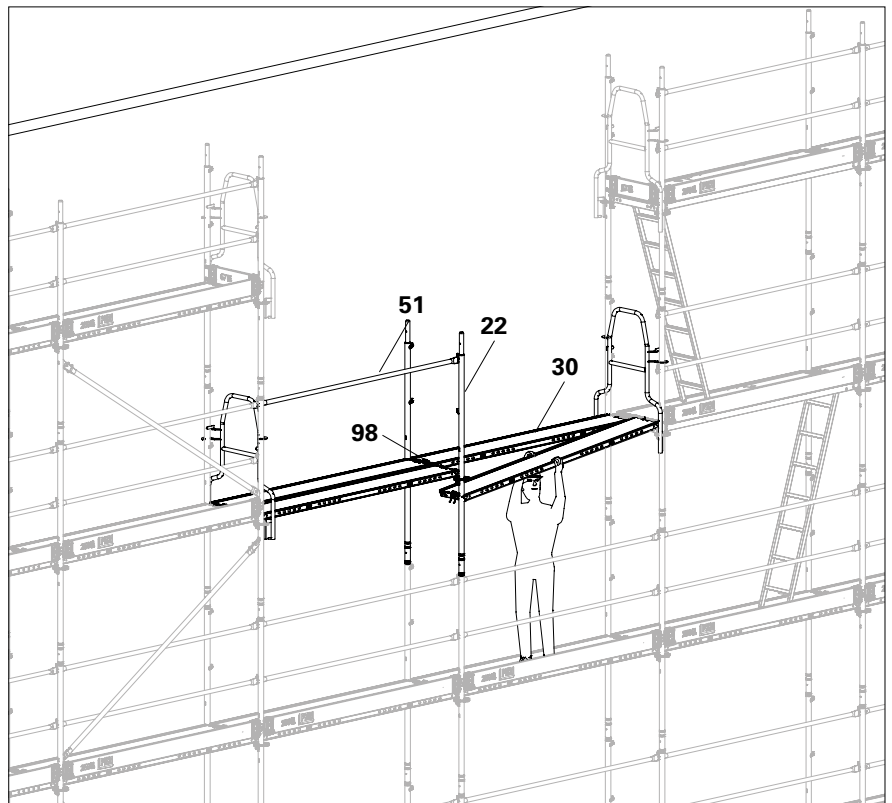

Fig. B9.04
1. Install 2x Easy Standards EVM (22) and Horizontal Ledger UH-2 67 (98) with Guardrail Post EPG (51) from the level below.
2. Install the decks (30).
- (Fig. B9.04)